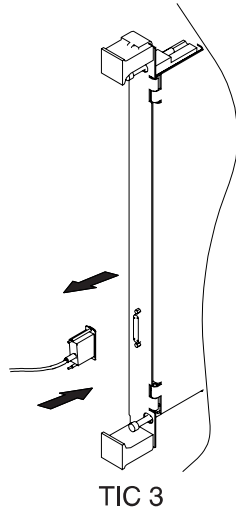

Figure C-5. Installing or Removing a Token-Ring Attachment Cable
**Step 2** Push in the connector and tighten the retaining screws (see Figure C-5). Repeat this step for every cable that you need to plug in.